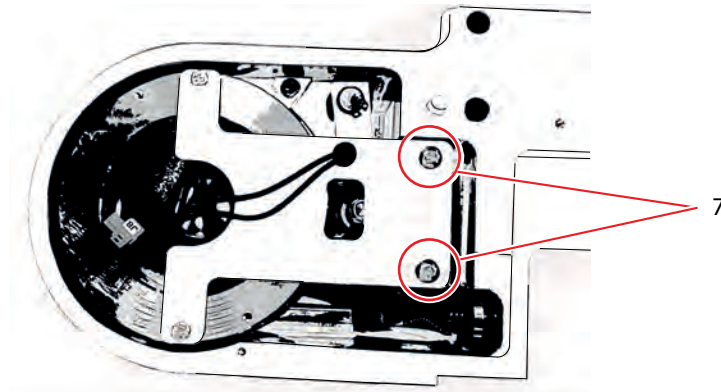

Fig. 4-97
7. Release the two screws at no. 7, Fig. 4-97 . Remove the beta magnet.